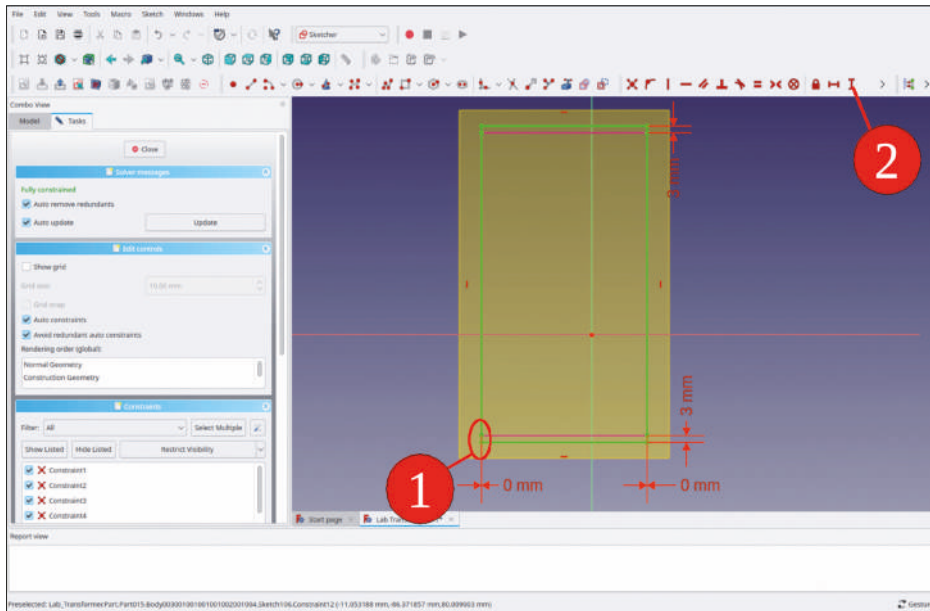

Figure 9-113
14. On the opposite side, mark the lower point of the rectangle and the corresponding end point of the lower construction line. Constrain the horizontal distance to 0 mm (Figure 9-113). Close the sketch.